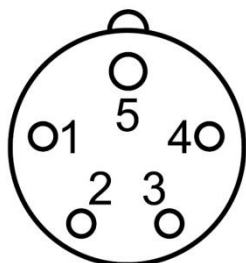

Fig. 2
1. To connect to the electrical mains, the device is equipped with a power plug installed on the device body and a return power outlet. The layout of the contacts on the plug is shown in Figure 2.